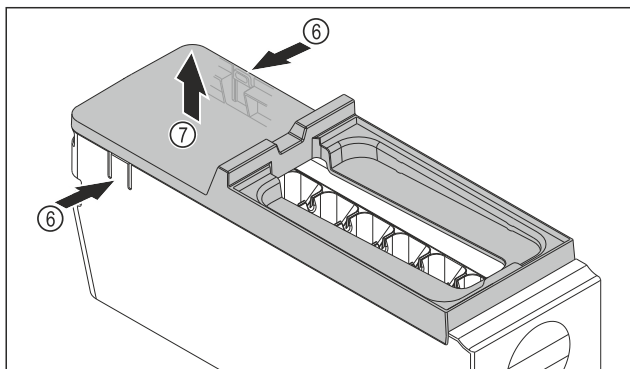

Fig. 213
- Removing the EasyTwist-Ice body cover: Push the tabs Fig. 213 (6) on both sides of the EasyTwist-Ice body with one hand.
- Use the other hand to remove the cover Fig. 213 (7) upwards.